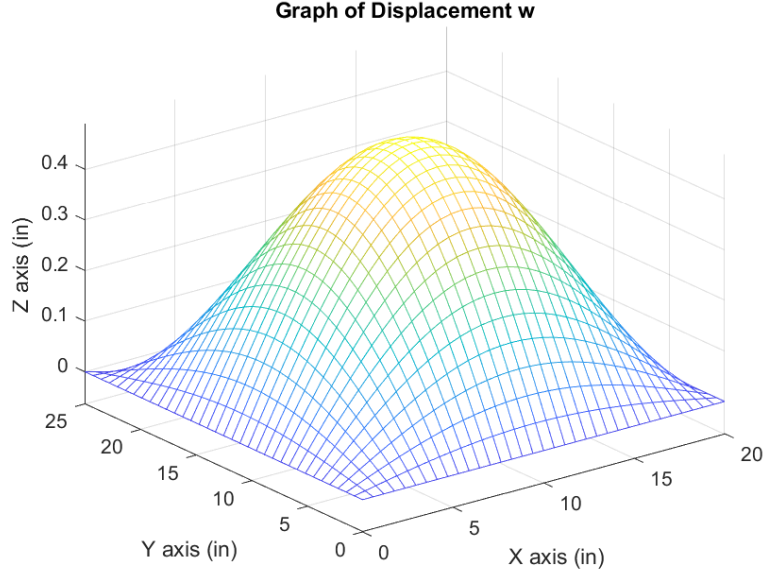

Figure 1:
at the plate center  $x = \frac{a}{2}$  and  $y = \frac{b}{2}$ . displacement = 0.488" at the plate center plugging the x and y values into equation (2). The graph of the displacement over the plate is shown in figure 1.